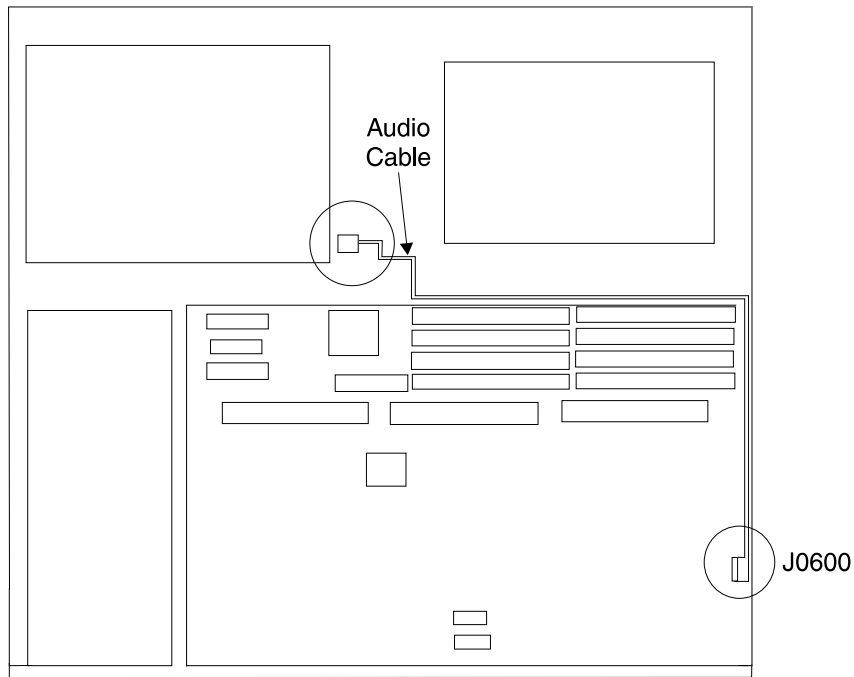

Figure D-33: Installing the *Sun SPARCserver 5* Audio Cable
5. *Sun SPARCserver 5* only. Plug one end of the audio cable into the Audio Out Port on the rear of the drive. Plug the other end of the Audio cable into J0600 on the main logic board (see Figure D-33). Go to step 6.